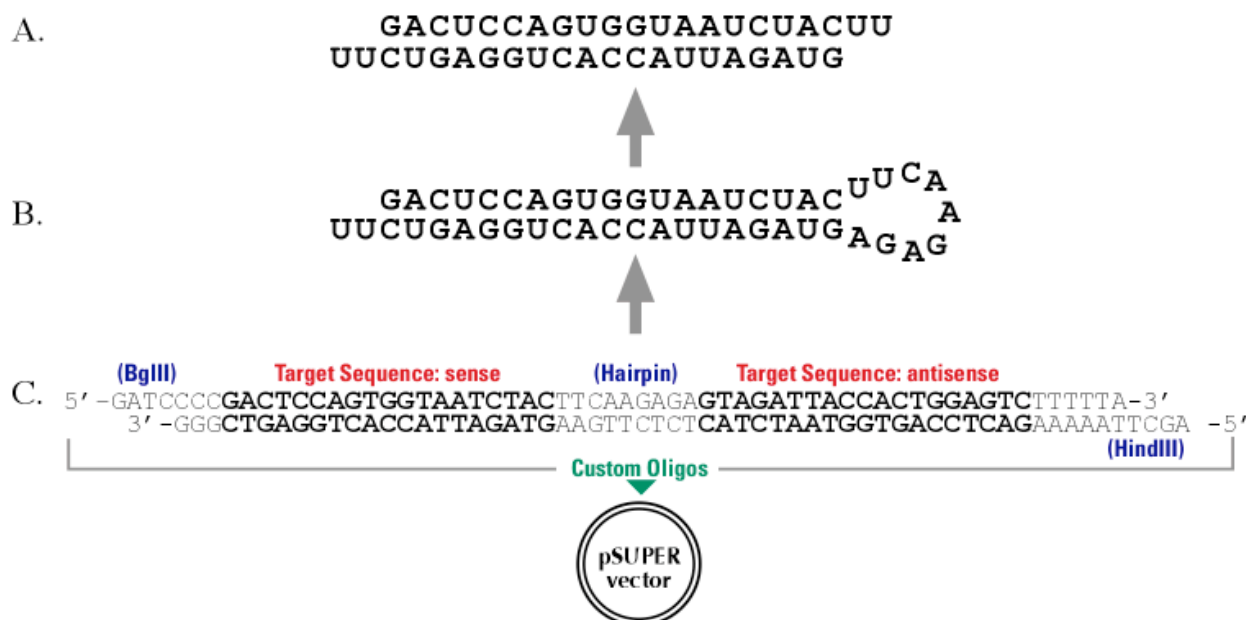

Fig. 1: Transcription of 60-nt oligo to hairpin RNA, processed to functional siRNA.
The resulting transcript of the recombinant vector is predicted to fold back on itself to form a 19–base pair stem-loop structure. Analysis indicates that the stem-loop precursor transcript is quickly cleaved in the cell to produce a functional siRNA (4). Figure 1 provides an overview of the insert design, and how the oligos are transcribed and process to functional siRNA.